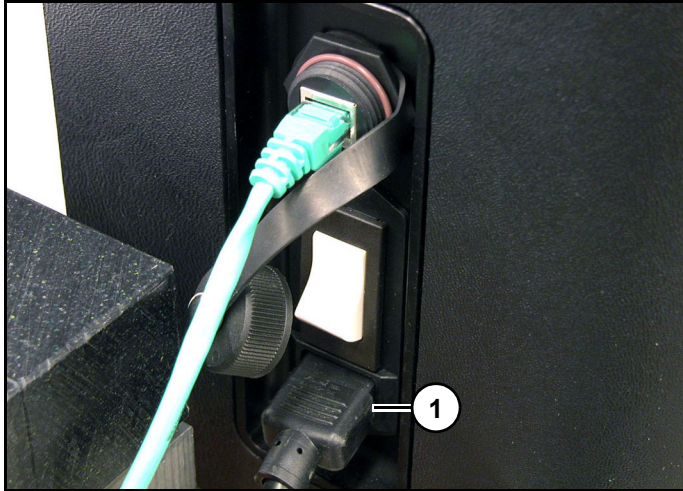

Figure 10
A standard 120 V-60 Hz-15 A socket with grounding is needed for electrical hook up (1) (Figure 10).